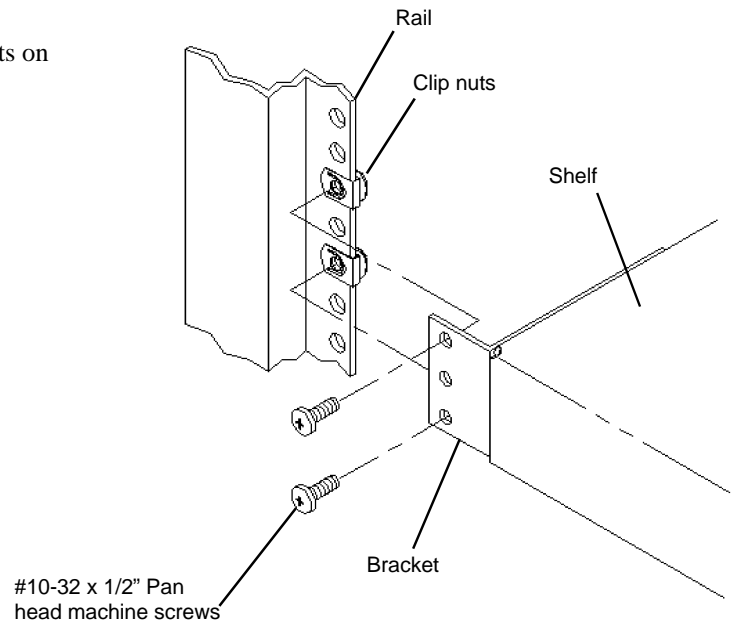

Figure 2
1. Position the **Stationary Shelf** with the four brackets on the correct side of the clip nuts See **Figure 2**.